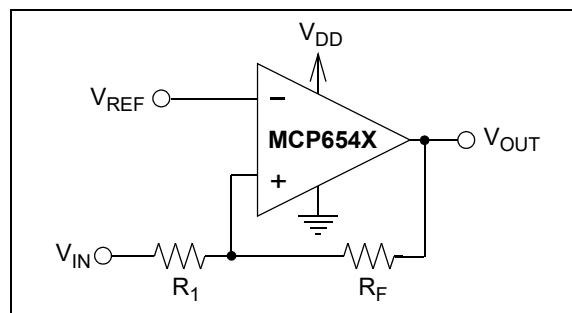
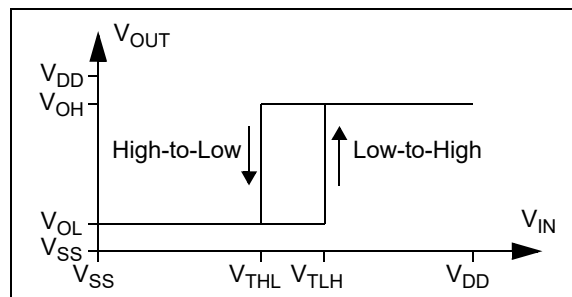

FIGURE 4-4: Noninverting Circuit with Hysteresis for Single-supply.
FIGURE 4-5: Hysteresis Diagram for the Noninverting Circuit.
Figure 4-4 shows a non-inverting circuit for single-supply applications using just two resistors. The resulting hysteresis diagram is shown in Figure 4-5.
The trip points for Figures 4-4 and 4-5 are:
2. Non-inverting Configuration (Figure 4-4):